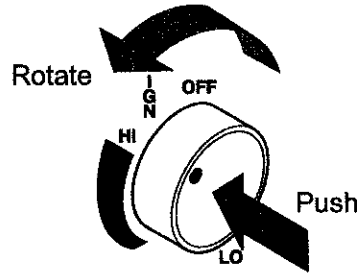

Figure 35 - HIGH Position
10. Push in control knob and turn counterclockwise  to the HIGH setting. At this location the control knob will pop out when positioned correctly. The knob can now be positioned at any position between HIGH and LOW. Refer to *Figures 35 and 36*.